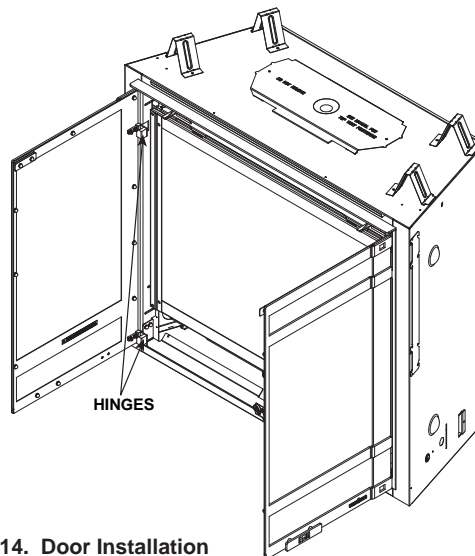

Figure 14. Door Installation
1. Place the left door on the hinges by sliding the door down onto the surround's hinge pins. See Figure 14.